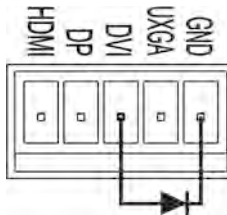

Figure 7: Remote Input Indicator LED Wiring for the DVI Input
3. Connect pin 3 from the terminal block to the anode of the remote DVI indicator LED (see the example in Figure 7).